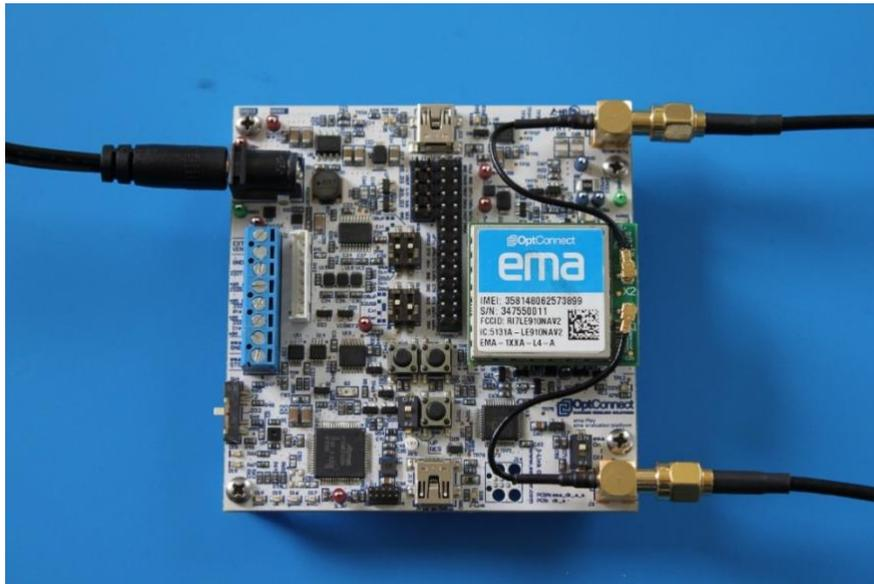

Figure 6
1. Apply power to ema:Play and ema by plugging in the provided power supply at connector J9 as shown in *Figure 6*. The following conditions can be observed and validate that the demonstration project is successfully running: